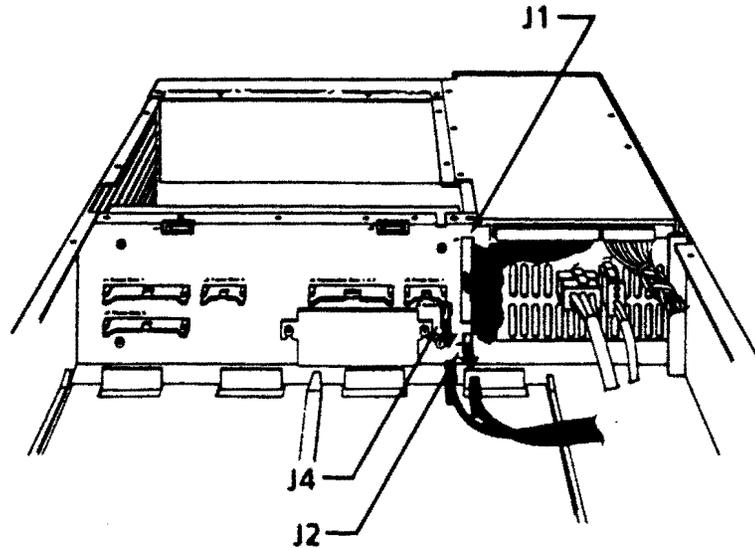

Figure 4-25: Other Backplane Cable Connectors
12. Remove the following cables (Figure 4-25):
4. Reconnect (Figure 4-25):